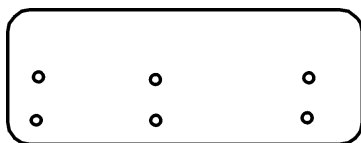

Figure 1
5. The Total counter is shown on the six LEDs according to figure 1.
5. The Software version is shown on the six LEDs according to figure 1.